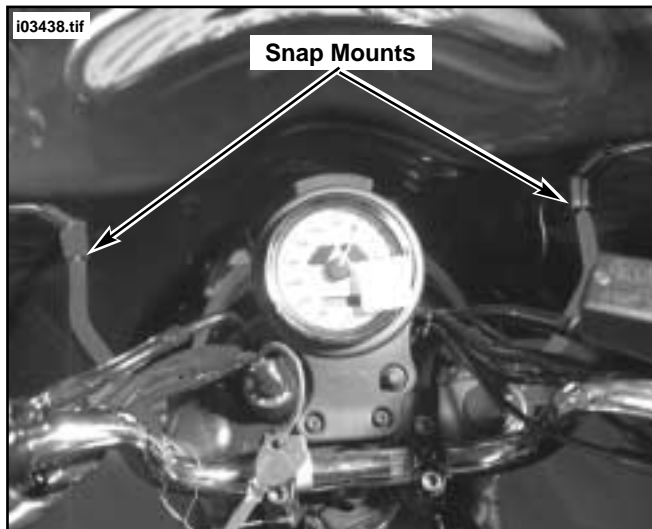

Figure 6. Align and Install Windshield Supports to Snap Mounts
- See Figure 6. Align the snap mounts on the windshield with the ball-end portions of the windshield supports and snap ball-ends to mounts.